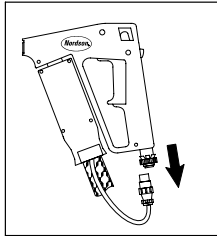

Figure 33 Disconnect the Electrical Switch (if applicable)
4. See Figure 33. Unplug the switch plug assembly from the connector on the hose cordset.